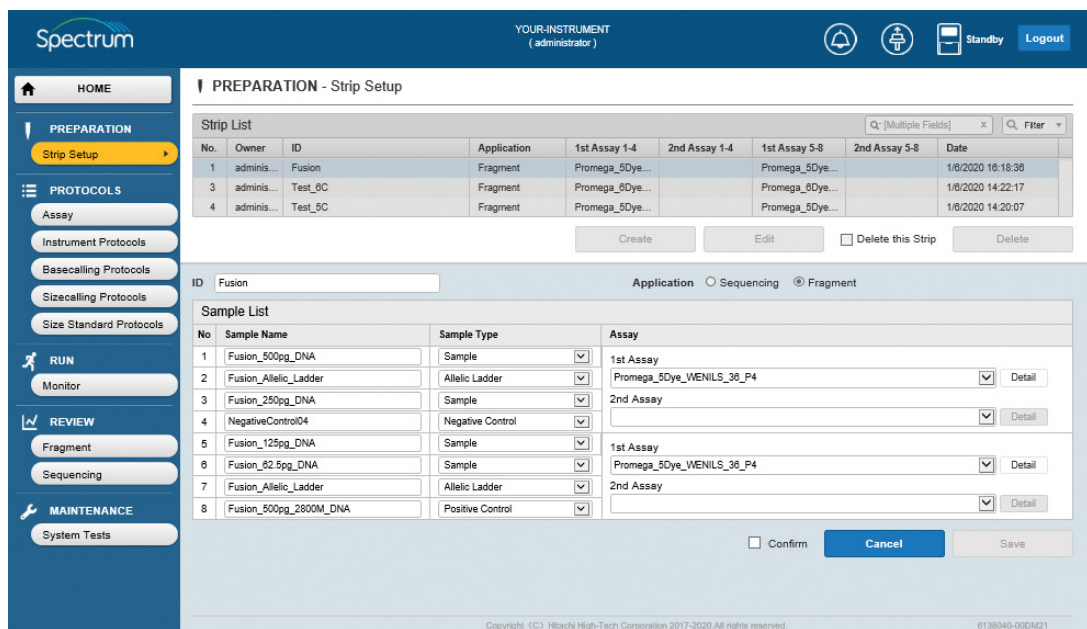

Figure 22. 'Strip Setup' screen with editable Sample List.
- Select **Edit**. This will enable the information in the Sample List part of the screen to be edited (Figure 22).